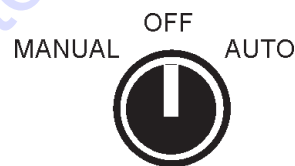

Figure 13. Manual-Off-Auto SW. (OFF Position)
1. Place the 3-position operation switch on the control box to the **OFF** position (Figure 13).